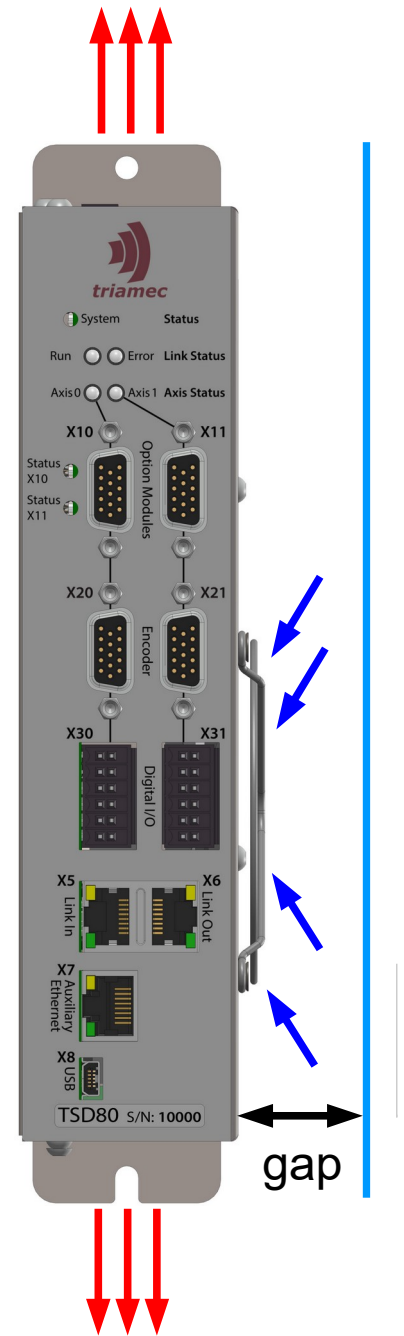

Figure 4: Mounting and cooling.
- Mount the drive preferably in vertical position as depicted in Figure 4 (horizontal position is allowed too). There are two mounting holes for this purpose for M4-Screws in a distance of 220mm at the back side of the drive.